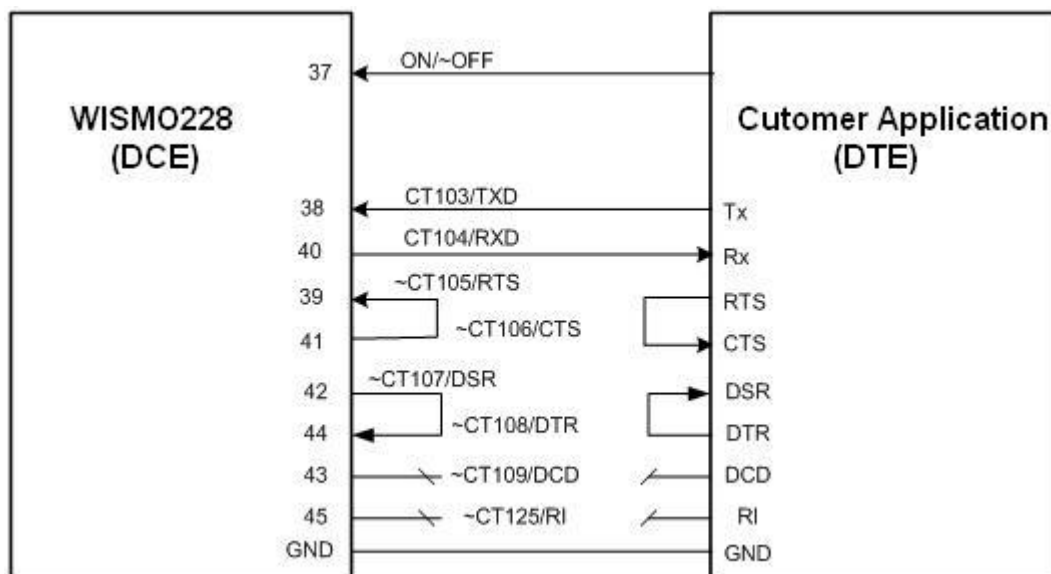
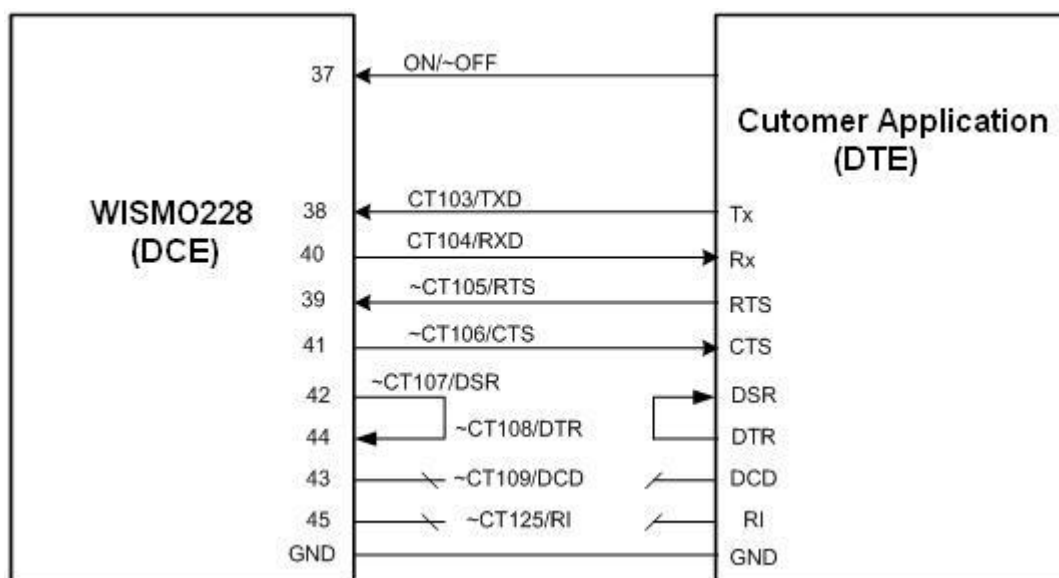
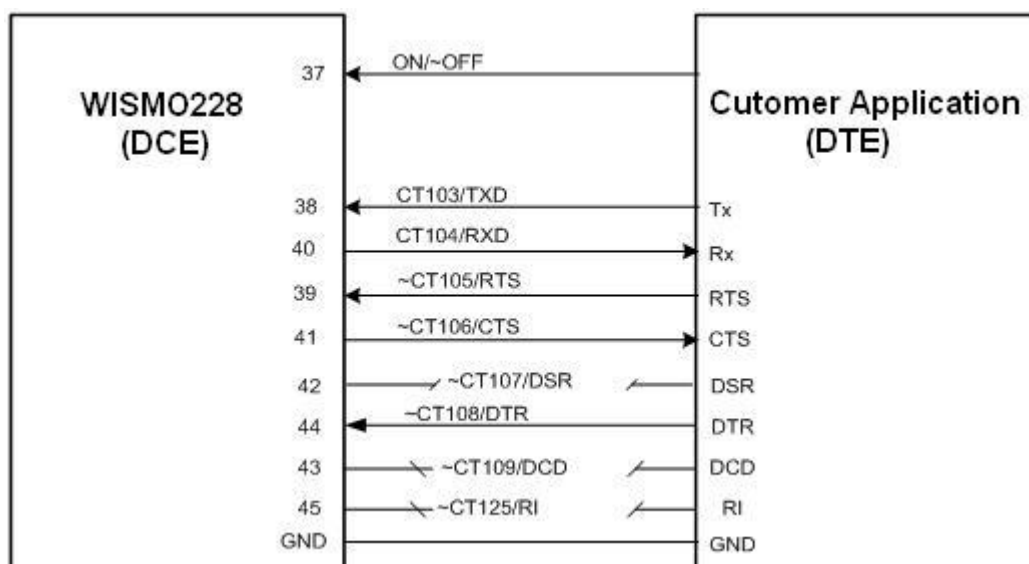

Figure 8. Example of V24/CMOS Serial Link Implementation for a 2-wire UART
Figure 9. Example of V24/CMOS Serial Link Implementation for a 4-wire UART
Figure 10. Example of V24/CMOS Serial Link Implementation for a 5-wire UART
For a detailed configuration, refer to Figure 10 Example of V24/CMOS Serial Link Implementation for a 5-wire UART.
For a detailed configuration, refer to Figure 9 Example of V24/CMOS Serial Link Implementation for a 4-wire UART.
- For a detailed configuration, refer to Figure 8 Example of V24/CMOS Serial Link Implementation for a 2-wire UART.
The designs shown in Figure 8, Figure 9 and Figure 10 are basic designs. Both the DCD and the RI can be left open when not used.